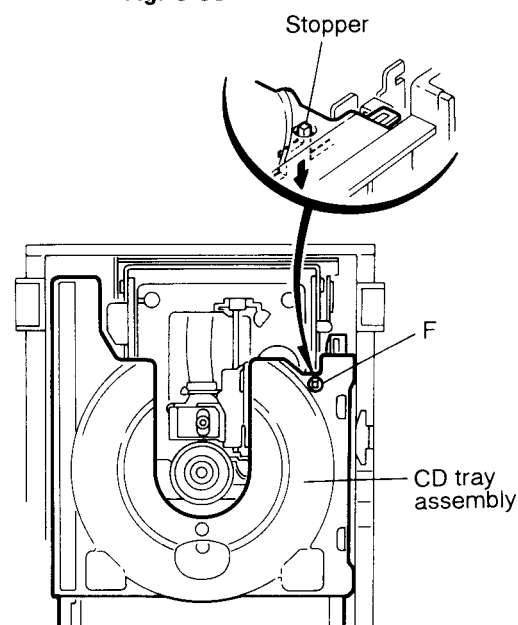

Fig. 5-36
11. Check whether the lifter unit stopper has been caught into the hole at the section (F) of CD tray assembly as shown in Fig. 5-36.